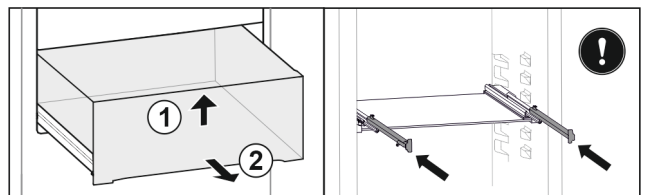

Fig. 85
- Lift up drawer at the front. Fig. 85 (1)
- Remove drawer to the front. Fig. 85 (2)